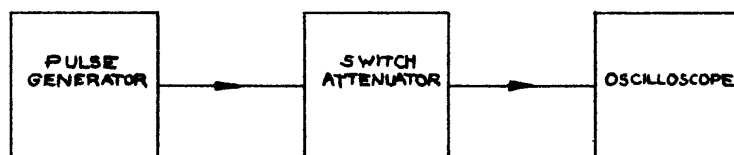

FIGURE 4-6. ARRANGEMENT FOR TESTING VIDEO AMPLIFIERS
- a. Connect test equipment as shown in Figure 4-6.